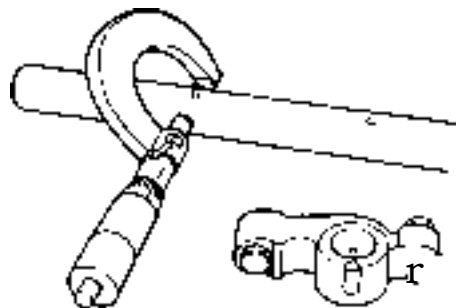

Fig. 26. Measuring of rocker shaft
4. Check the wear on the rocker shaft with a micrometer (Fig. 26). Diameter min. 11.57 mm (.4555 in).